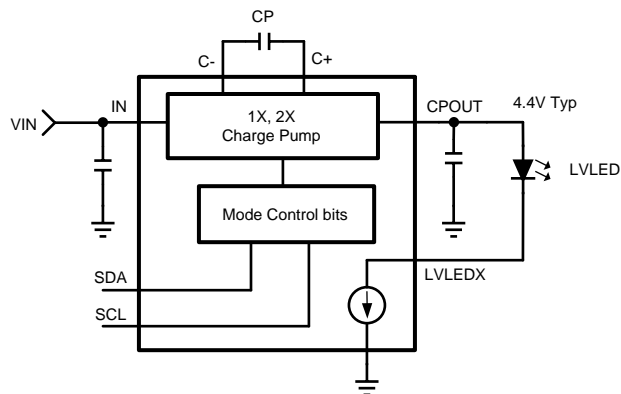

Figure 23. Integrated Charge Pump
The LM3533 features an integrated (2x/1x) charge pump capable of supplying up to 150 mA. The fixed 1-MHz switching frequency allows for use of tiny 1- μ F ceramic flying capacitors (CP) and output capacitor (CPOUT). The charge pump can supply the power for the low-voltage LEDs connected to LVLED1 to LVLED5 and can operate in 4 different modes: disabled, automatic gain, 1x gain, or 2x gain (see Figure 23).